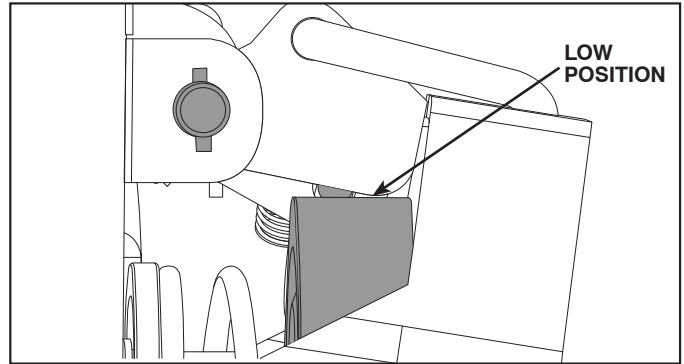

FIG. 33
**NOTE:** Figure 33 shows the bellcrank positioned too low, causing hard disengagement or self-disengagement while driving.